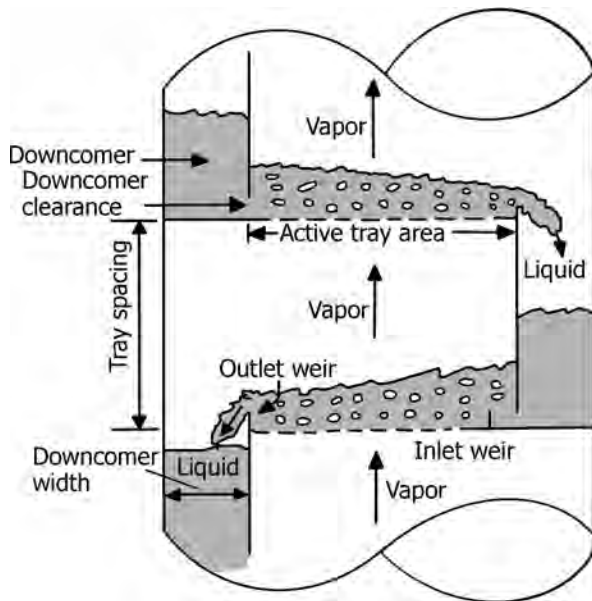

FIGURE 16.5 Sieve tray indicating different parameters.
- Figure 16.5 illustrates a tray indicating different parameters such as free area, downcomer height and width, weir details, and tray spacing.